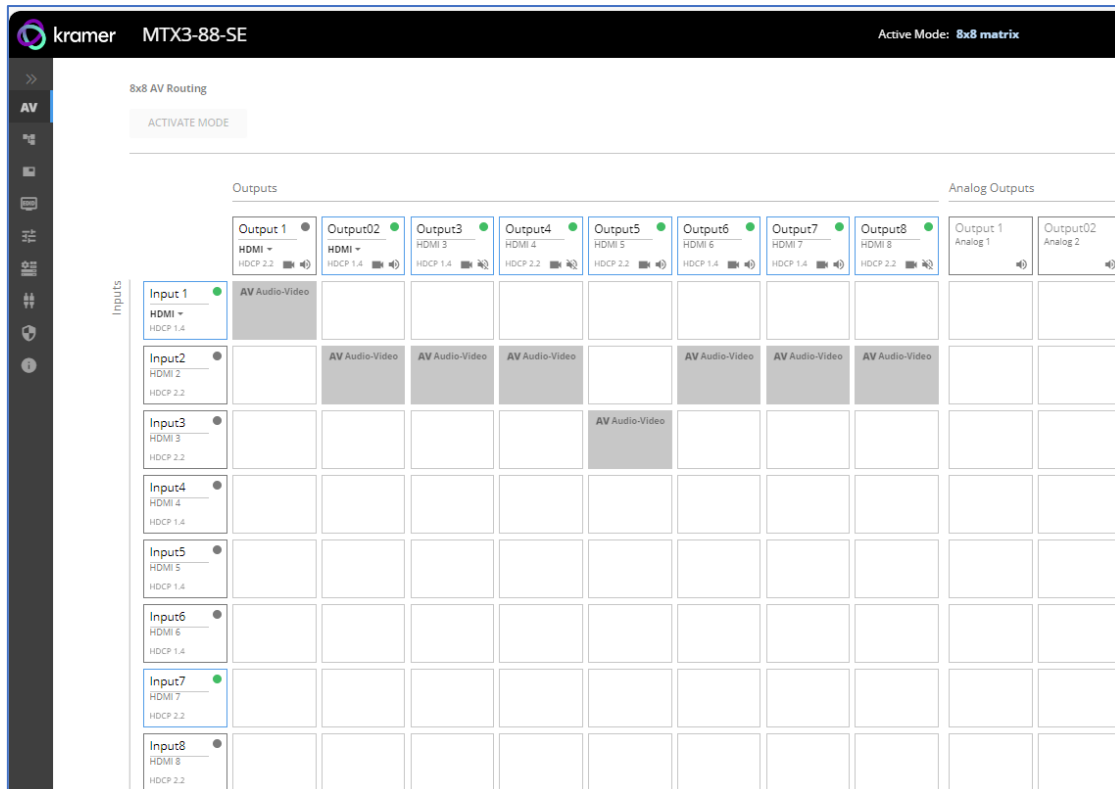

Figure 16: 8X8 AV Routing (Matrix) Operation Selected
- On the Av Routing (Matrix) operation page (Figure 16), verify:
- Click **8x8 AV Routing** on the Navigation List. The 8x8 AV Routing page appears (Figure 16).